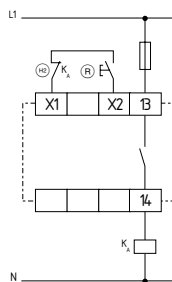

Fig. 15
**Single-channel control with feedback circuit (Fig. 15)**
- (R) Reset button (with edge detection)
- (HE) = feedback circuit: If the feedback circuit is not required, establish a bridge.